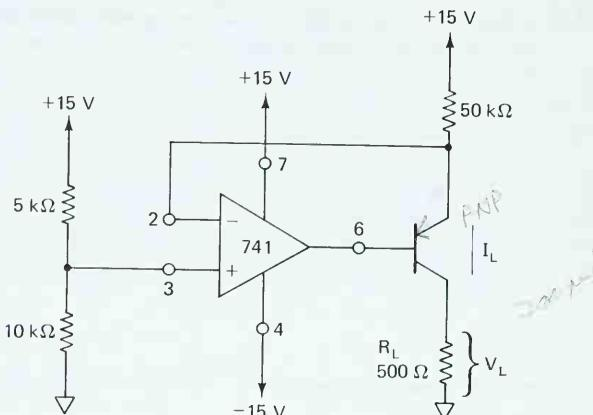

FIGURE P5-7
- 5-7.** For the constant-current source shown in Fig. P5-7: (a) draw the emitter arrow and state if the transistor is *npn* or *pnp*; (b) find I ; (c) find V_L .